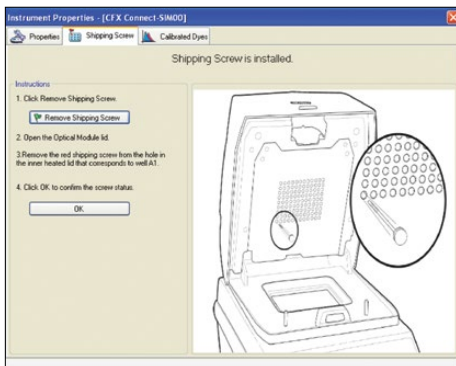

Fig. 6. Shipping screw tab.
2. Click the **Shipping Screw** tab and follow the instructions (Figure 6).